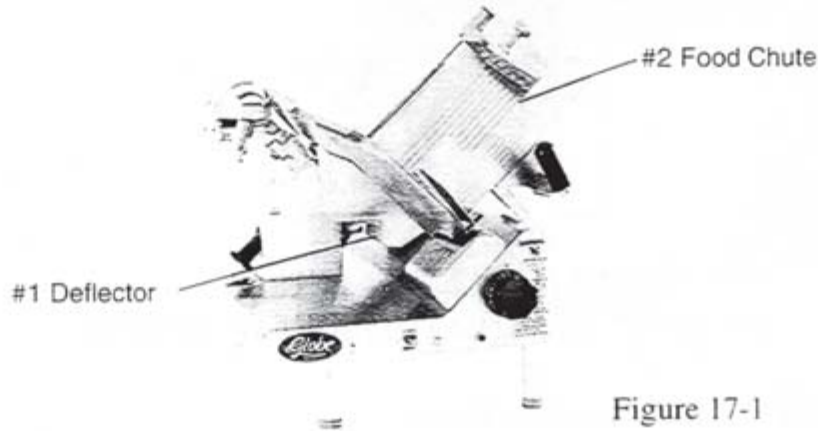

Figure 17-1
1. Replace the slice deflector (#1) by sliding it over the retaining guide pin and pushing toward the rear of the slicer. (Fig. 17-1)